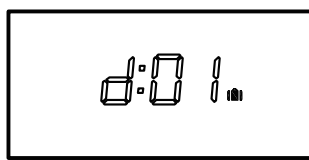

Fig.12
1. Press & Hold DAY button for 4 seconds to enter the holiday function , d:01 flashes(see Fig. 12).